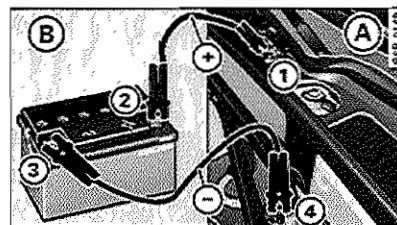

Fig. 240 Jump starting with the battery of another vehicle: A discharged vehicle battery, B booster battery
- Open the cover ② on the positive terminal.
- 1. Connect one end of the positive cable (red) on the **jump start bolt** ⇒ fig. 240 ① (Bolts under cover = "positive") of the vehicle to be started ④.
- 2. Connect the other end to the positive terminal ② of the booster battery ③.
- Please note that the procedure for connecting a jumper cable as described above applies specifically to the case of your vehicle being jump started. When you are giving a jump start to another vehicle, do *not* connect the negative (–) cable to the negative (–) terminal on the discharged battery ④ ⇒ page 316, fig. 240. Instead, securely connect the negative (–) cable to either a solid metal component that is firmly bolted to the engine block or to the engine ►